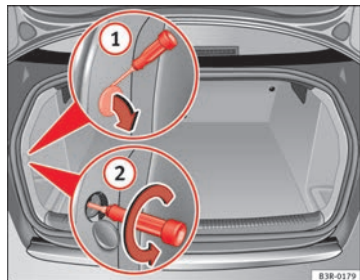
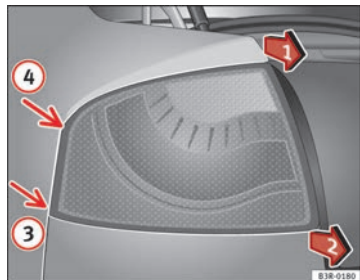

Fig. 206 Luggage compartment: Location of the bolt securing the tail light unit
Fig. 207 Removing tail light from side panel
- Prise open the cover with the flat side of a screwdriver in the slot ⇒ fig. 206 ①.
- Use a screwdriver to loosen the screw ② (arrow) located behind the cover.
- Gradually ease the tail light out of the housing (⇒ fig. 207 positions ③ and ④) by pulling alternately in positions ① and ②.